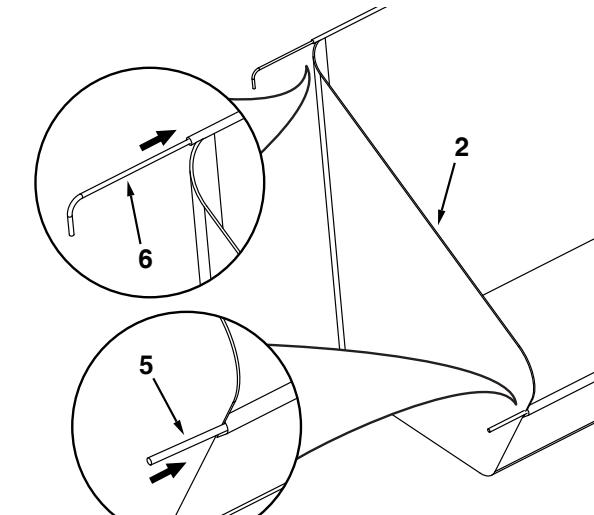

Figure 5
STEP 5: (SEE FIGURE 5)
- Slide the bent bag rod (6) through the stitched bag flap on the top of the hopper bag (2).
- Slide the lower bag rod (5) through the stitched bag flap on the bottom of the bag.